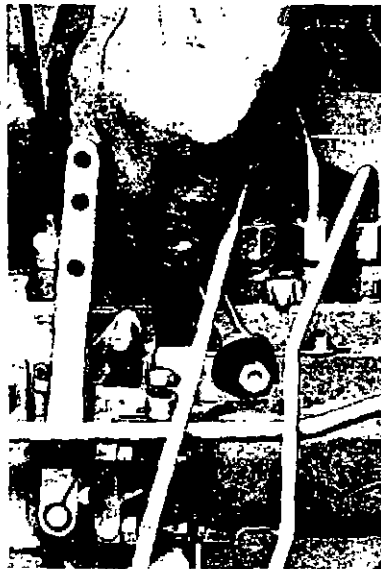

Fig. 20
- (a) Unscrew by two or three turns the vent plug on top of the filter (see Fig. 19) and one of the two vent plugs of the fuel injection pump (see Fig. 20).
NOTE: On some engines a non-return valve is fitted to the fuel injection pump in place of the forward vent plug shown in Fig. 20 with a pipe fitted between the valve and the fuel filter. This arrangement makes the system self-bleeding by providing a continuous flow through the pump. It may be advisable, however, where a large amount of air has entered the system, to bleed the system manually, as detailed above, using the rear vent plug of the fuel injection pump.